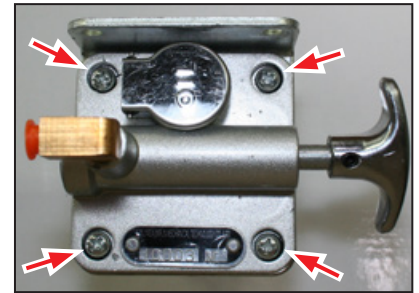

Figure 2.9
1. Remove four bracket screws shown in **Figure 2.9**.